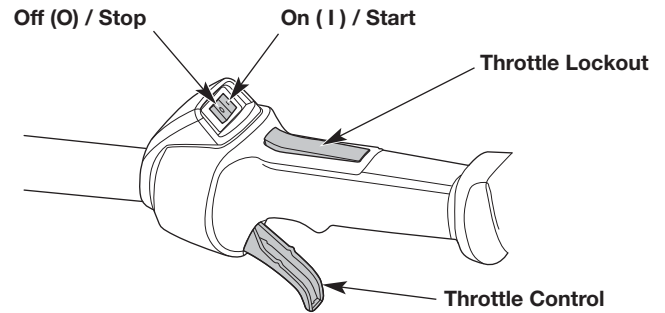
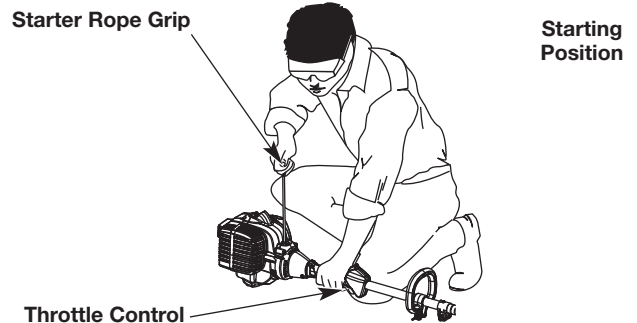

Fig. 6
Fig. 8
WARNING: Avoid accidentally starting the unit. To avoid serious injury, the operator and the unit must be in a stable position when pulling the starter rope (Fig. 8).
NOTE: There is no need to turn the unit on. The On/Off switch is in the ON (I) position at all times (Fig. 6).
5. Crouch in the starting position (Fig. 8).
6. Press the throttle lockout and squeeze the throttle control (Fig. 6). Pull the starter rope with a controlled and steady motion **5 times** (Fig. 8).
2. Press and hold the On/Off switch in the OFF (O) position until the engine comes to a complete stop (Fig. 6).